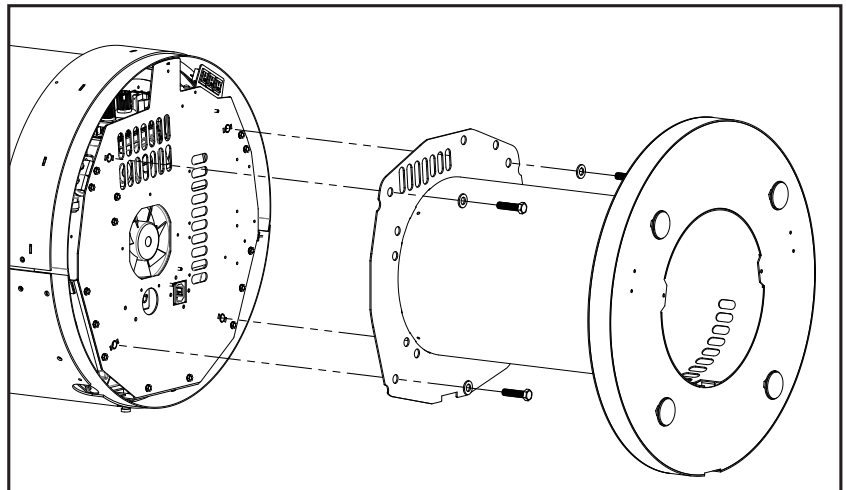

Figure 77: Pole Pedestal Installation
The pole pedestal comes packaged with four (4) hex head bolts and four to secure the pedestal onto the unit. Align the pedestal vent slots with those on the bottom of the unit. Fasten the pole pedestal to the unit using the same threaded holes that the leveling legs were installed in (see Figure 77).